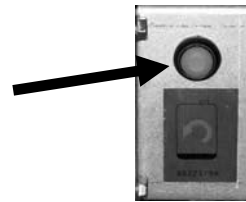

Figure 8
6. Press and hold the orange JIB reset switch **three (3) seconds** to reset the top off system (see Figure 8).